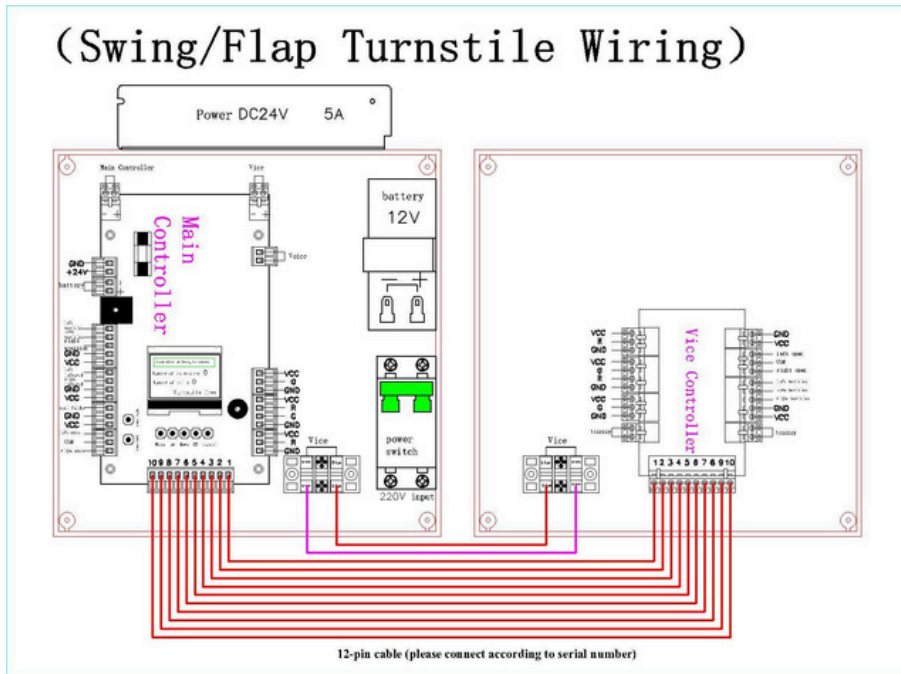

Figure 6. Opening Signal Wiring Methods
- Refer to the system connection diagram (Figure 6).
Refer to the wiring diagram (Figure 6) to connect the barrier opening signals to the communication port. There are three types of communication port wiring methods: